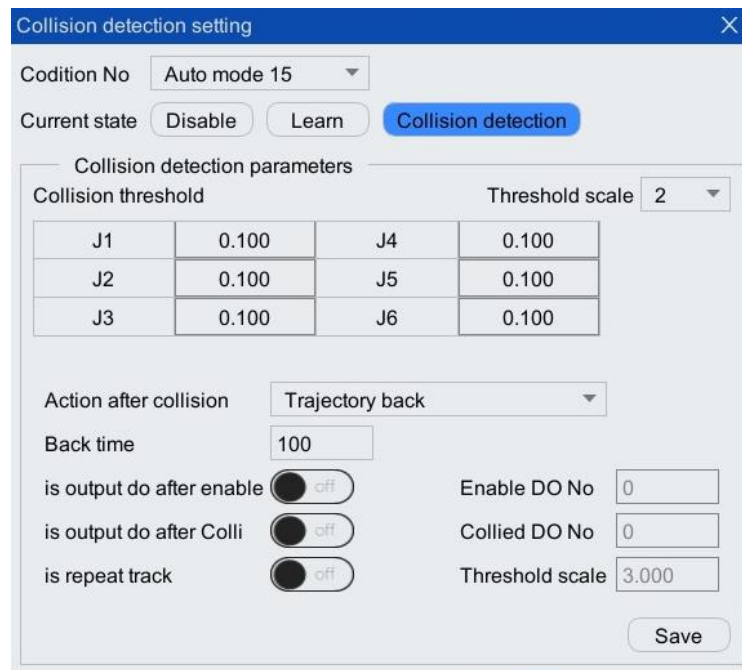

Figure 10-9 Collision detection setting interface
Step2. Click "Monitoring>Collision Detection" on the main interface of the teach pendant to open the [Collision Detection Settings] interface, as shown in Figure 10-9;
Step6.Run the program and adjust the threshold multiple in Figure 10-9 according to the actual detection effect. If a false alarm occurs, increase the threshold multiple. After the configuration is complete, click <Save>.